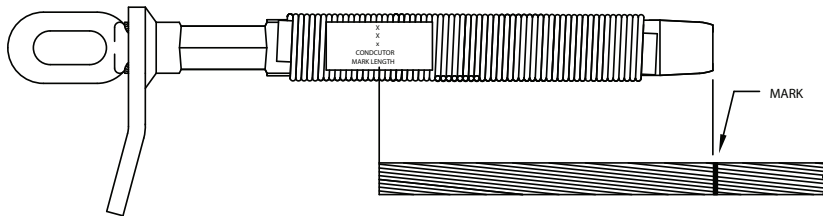

Fig. 1
1. Remove "End Cap." Mark the conductor from label location to end of barrel. See Fig. 1.